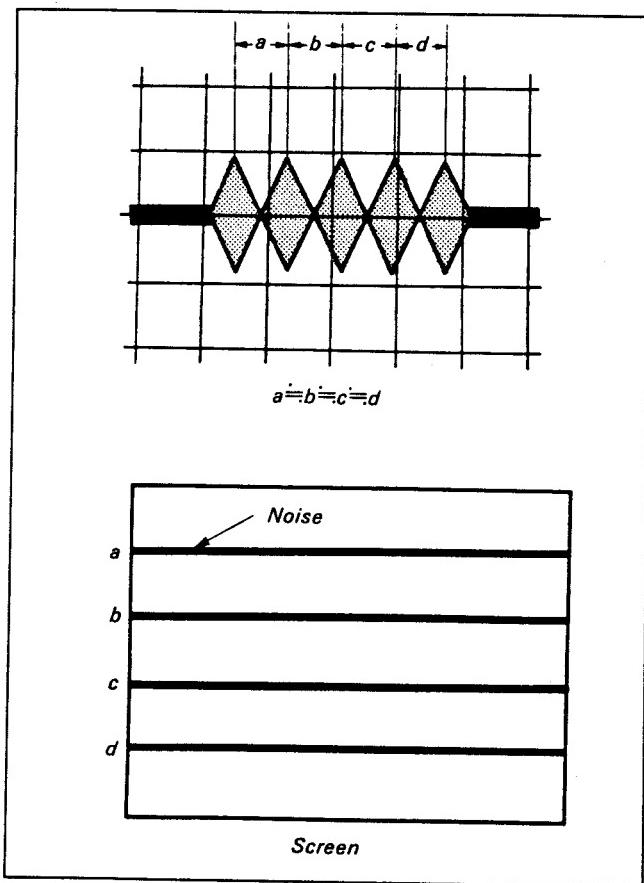

Fig. 4-20
- 6) Set up the REV mode and confirm that the waveform noise pitches are uniform. If not, adjust as follows. (Fig. 4-20)